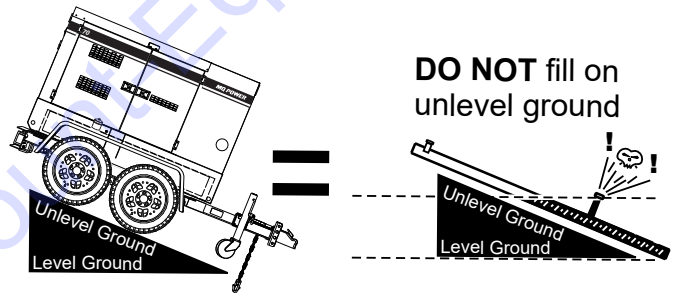

Figure 25. Only Fill on Level Ground
1. **Level Tanks** — Make sure fuel cells are level with the ground. Failure to do so will cause fuel to spill from the tank before reaching full capacity (Figure 25).